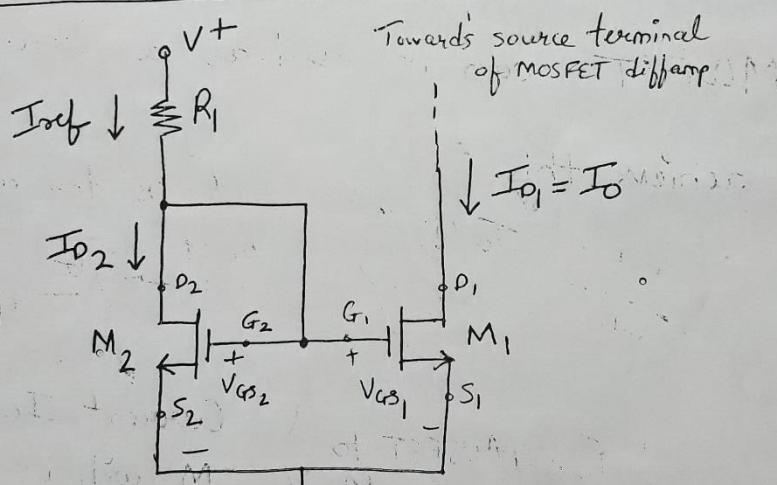

fig 7.1 Two-transistor NMOS current source.
- The direction of current flow in fig 7.1 is into the current source; this type of constant-current source is often referred to as a current sink.